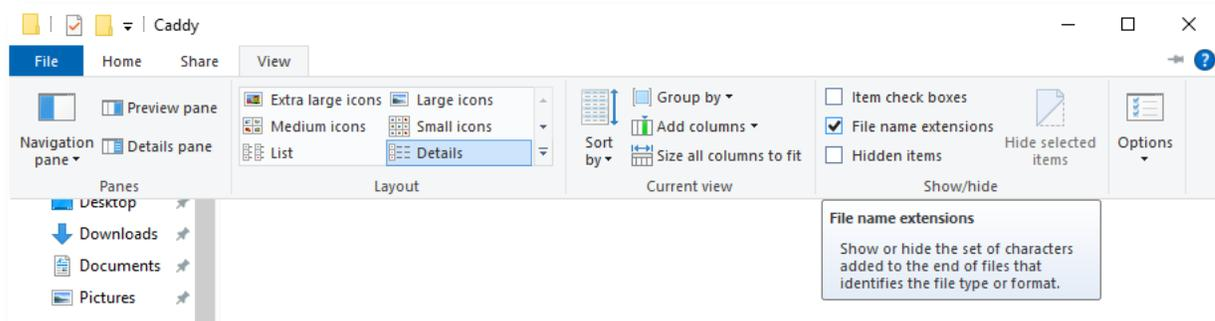

Figure 9: Select the File Name Extensions check box.
5. In File Explorer, click **View**, and select the File Name Extensions check box (Figure 9).